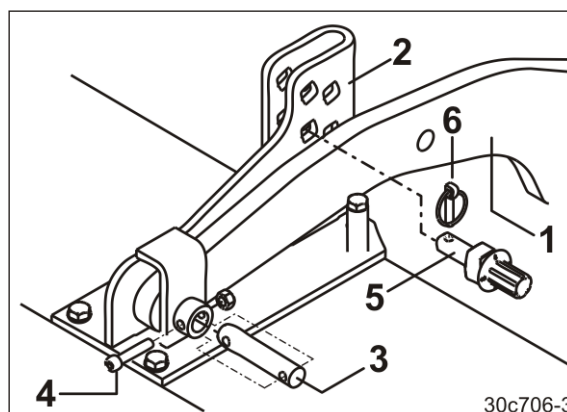

Fig. 83
4. Attach the roller carrying arm (Fig. 83/1) to the adjuster segment (Fig. 83/2) with a pin (Fig. 83/3). Secure the pin with a screw and nut (Fig. 83/4).
5. Plug the depth setting pin (Fig. 83/5) into the closest possible hole above the carrying arm and secure the depth setting pin using a linch pin (Fig. 83/6).